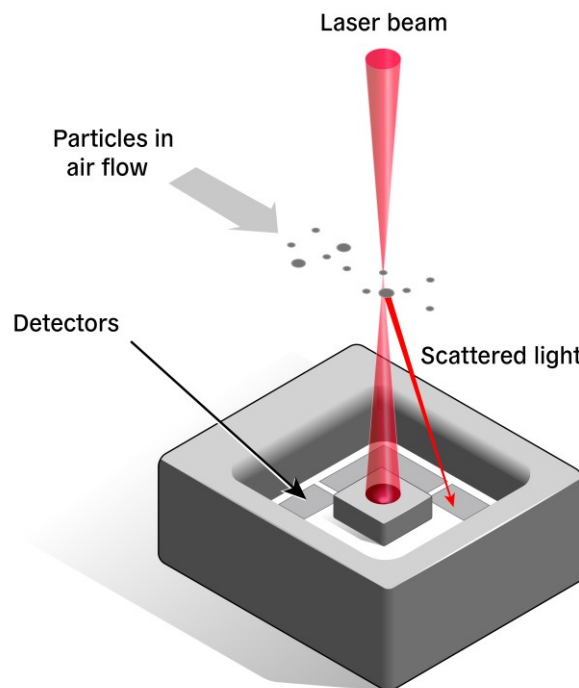

Figure 1. Measurement principle of SPS6x-based particulate matter sensors
Sensirion Particulate Matter (PM) sensors operate as optical particle counters (OPCs) based on laser scattering technology. All OPCs guide ambient, suspended particles to a measurement cell inside the device. The measurement cell consists of a light source (e.g., a laser) and a photodetector. Due to the interaction of particles and light, part of the incoming light is scattered towards the nearby photodetector (see **Figure 1**).